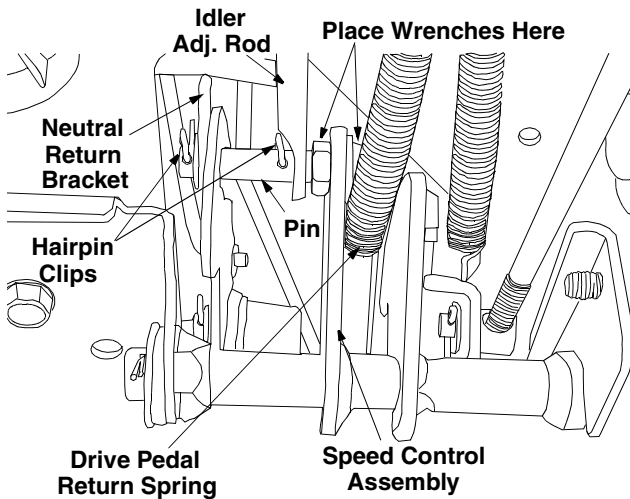

Figure 18
- Locate the speed control assembly on the underside of the steering support bracket. See Figure 18.
- Remove both hairpin clips from the pin which is fastened to the speed control assembly (be careful not to lose the small flat washers found on the pin). See Figure 18.
- Using two 9/16" wrenches, remove the pin from the speed control assembly. See Figure 18.